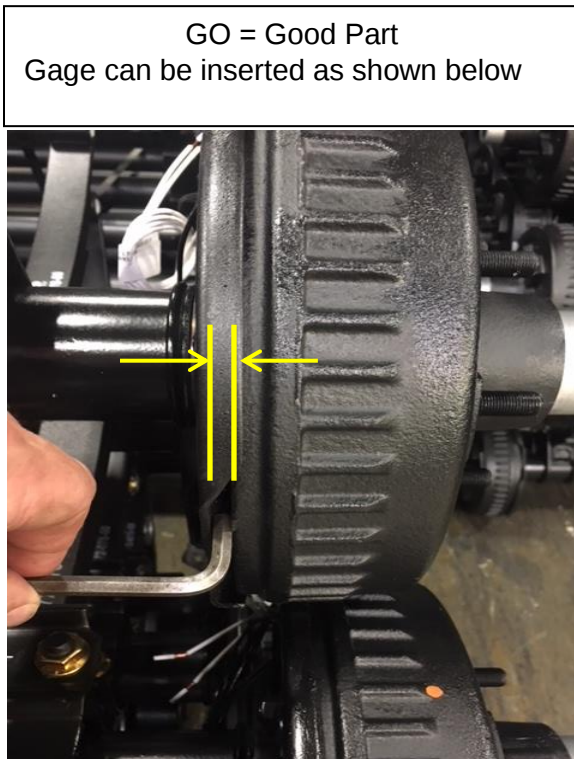
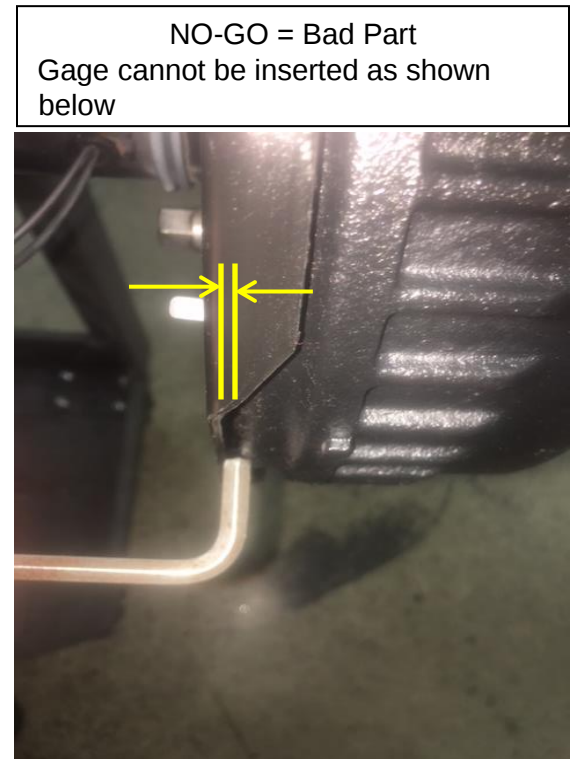

Figure 1
Figure 2
2. Attempt to insert the gage between hub-drum and backing plate as shown in figure 1 and Figure 2.
3. Determine if the gage fits GO (Figure 1) or does not fit NO-GO (Figure 2) between backing plate and hub-drum as shown.